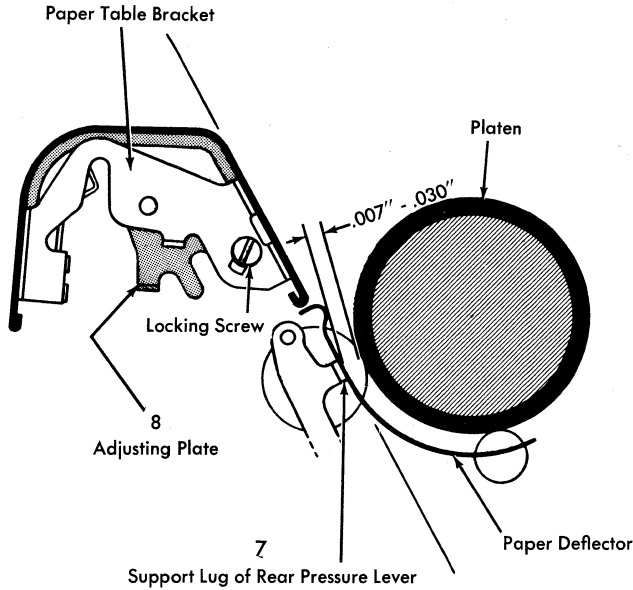

Figure 23. Paper Table and Paper Deflector Adjustment
7. Form the support lugs on the rear pressure levers so there is a clearance of .007"-.030" (one to four IBM cards) between the paper deflector and the platen. Card strips can be inserted at the ends of the deflector and between feed rolls to accurately check the clearance between the paper deflector and platen (Figure 23).
8. Adjust the rear paper table so that the relationship between the deflector and the paper table allows the paper to pass freely in either direction without catching. Adjust this relationship by the locking screws that clamp the adjusting plates to the paper table bracket (Figure 23).